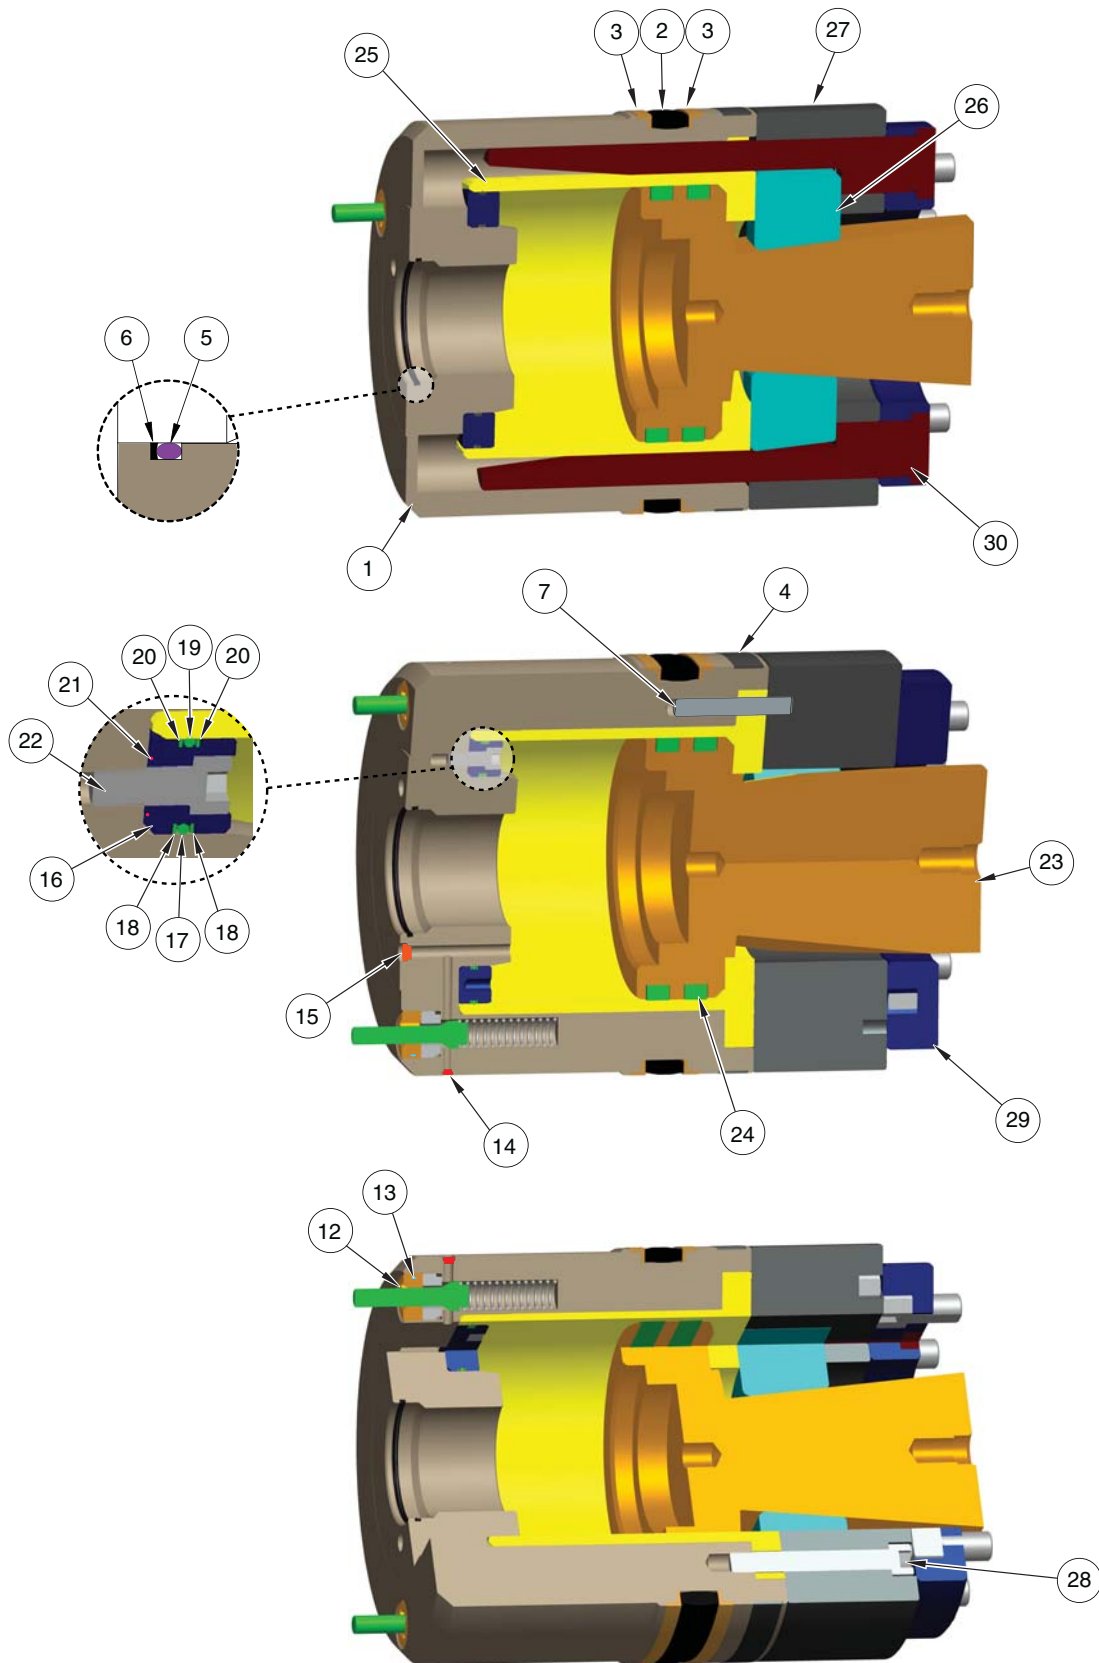
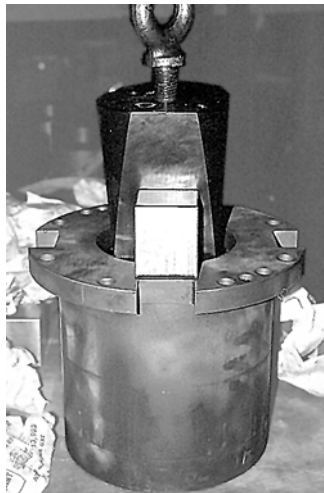
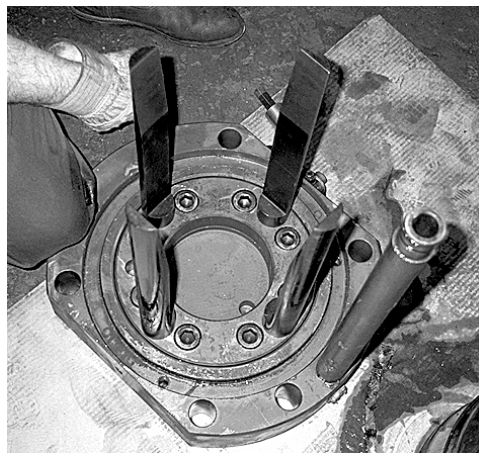

Figure 5-66. Piston Assembly, 14" UltraLock II (B)
Figure 5-68. Locking Piston
Figure 5-72. Rod Plate
For reassembly of the UltraLock II (B) operator, see Figure 5-66 on page 5-78 and engineering drawing C-20001255D. For a list of tools, see the table titled “UltraLock II (B) Toolkit (P/N 165551)” on page 5-64.
For parts list, see the table titled “Parts List — UltraLock Piston Assembly”. Item numbers in this table correspond to the callouts in Figure 5-66 on page 5-78, and numbers in parentheses in the following procedures.
- b. Install the OD O-rings (17) and backup rings (18) and the ID O-ring (19) and the backup rings (20) into the seal plate (16). Install the twelve O-rings (21) into the seal plate (see Figure 5-66 on page 5-78). Lightly grease the O-rings to help keep them in place.
- d. Install seals, lips out and heels in, on the locking piston. Lightly lubricate the seals and install the locking piston (23) into the locking piston sleeve (25), making sure that the slots on the locking sleeve align with the flats on the locking piston (see Figure 5-66 on page 5-78 and Figure 5-68 below).
- g. Install a 1"-8UNC lifting eyebolt in the locking piston (23), and install the retainer plate/locking piston assembly into the piston (1) using the dowel pins as guides. Lubricate inside of the piston (1) and locking piston sleeve prior to installation (see Figure 5-68 on page 5-79).
- h. Install the eight socket head cap screws (28) using a $\frac{5}{8}$ " hex wrench; torque to 200 ft-lb (271 Nm).
- i. Install OD poly bi-pack (2) and backup rings (3) on UltraLock II (B) piston. Install a new wear band (4) on piston. Use light grease, sparingly, to hold wear bands in place. Install O-ring (5) and back-up ring (6) into (ram shaft) bore of piston (1).
(see Figure 5-66 on page 5-78).
- f. Install the door seal cartridge (3) on the door and the ram assembly on the ram shaft.
Check that the lock rod center bores are clean and free of debris, Loctite, etc. Install the lock rods (30) to the lock rod plate (29) (see Figure 5-72 and Figure 5-66 on page 5-78).
- b. Install the lockrod plate assembly into the cylinder head using the eight socket head cap screws (28) and $\frac{5}{8}$ " hex wrench; torque to 200 ft-lb.
- c. Check for free movement of the lockrods in the lockrod plate (see Figure 5-72 on page 5-82).